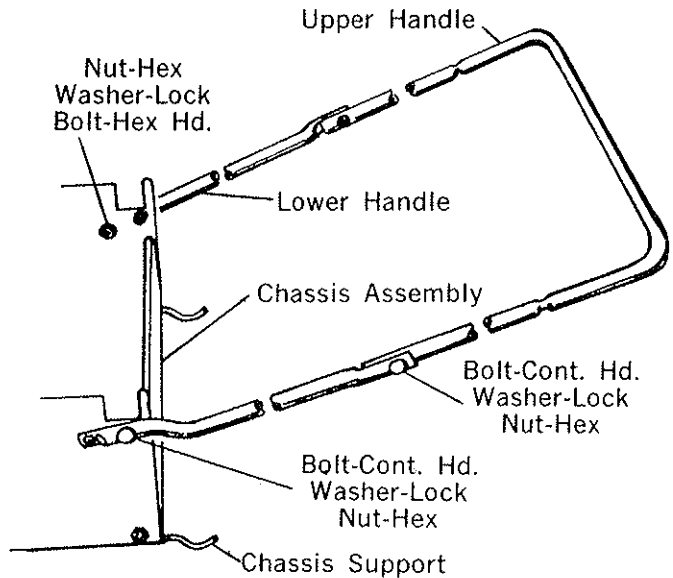

Figure 3
- 1 ~~77-38-B~~ Upper Handle - Fig. 3
- 2 76-21-B Lower Handle - Fig. 3
2. Ref. Fig. 3 & 5 - Next, install the Lower Handles to the Chassis, using (2) 1/4-20 x 1/2 Hex Bolts, (2) 1/4-20 x 1 Contour Head Bolts, (4) Spring Lock Washers and (4) 1/4-20 Hex Nuts, and tighten lightly.
3. Ref. Fig. 3 & 5 - Now attach the Upper Handles to the Lower Handles,, using (2) 1/4-20 x 1 Contour Head Bolts, (2) Spring Lock Washers and (2) Hex Nuts. Now tighten all Handle Bolts and Nuts securely.